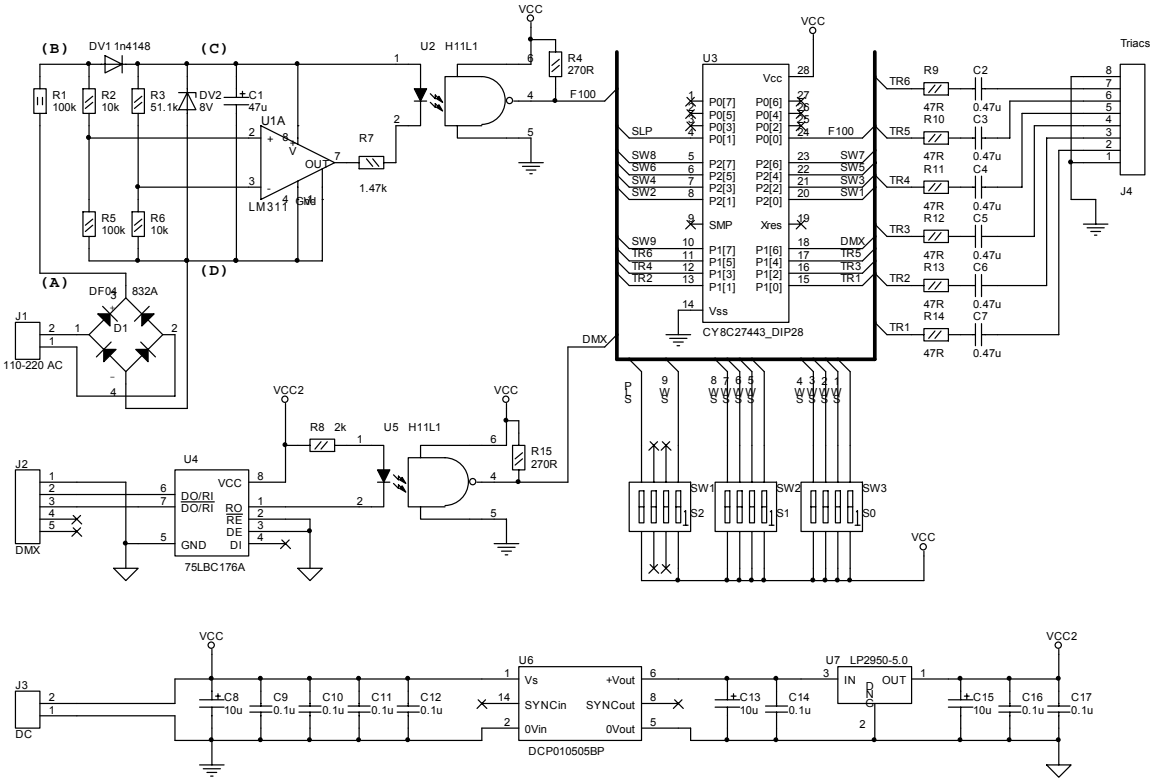

Figure 5. DMX Dimmer Circuit
Figure 5 illustrates the DMX Dimmer circuit.
- Signal on AC Synchronizer output (in Figure 5 it is called "F100")